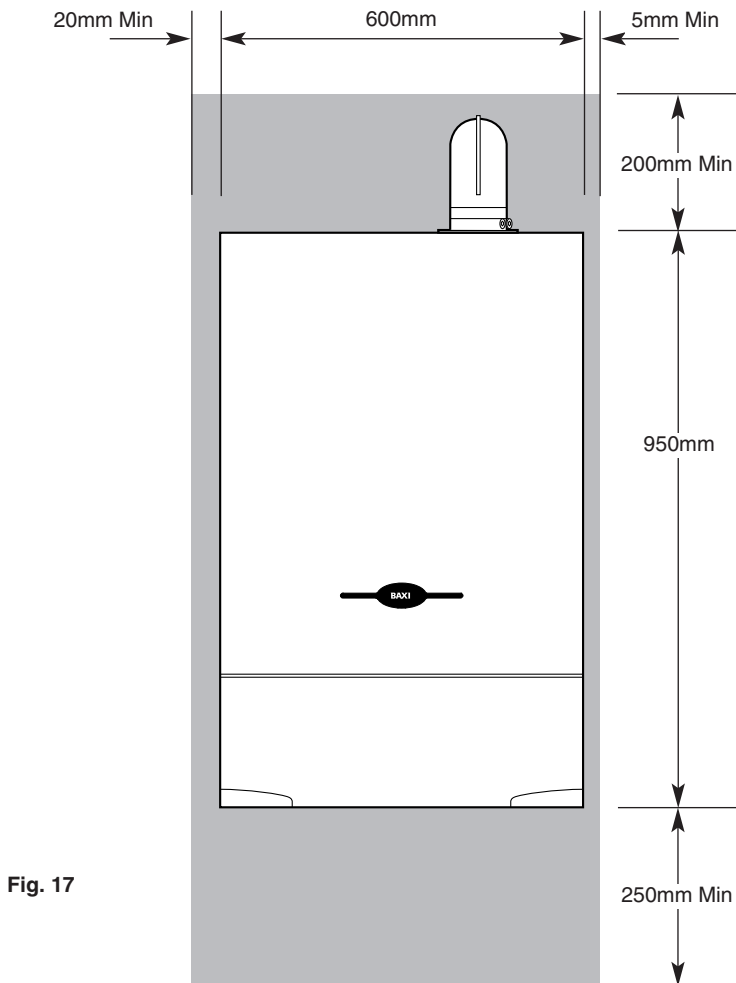

Fig. 17
3.1 Clearances around the Boiler (Figs. 17 & 18)